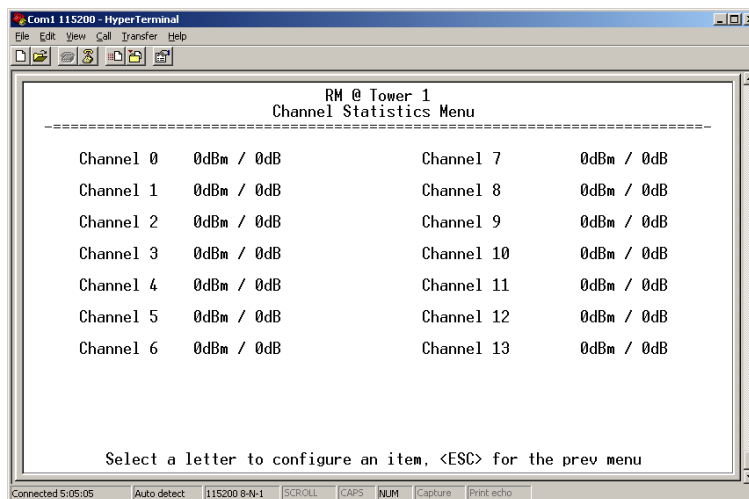

Figure 3-100. Channel Statistics Menu
- **Channel Statistics**—This selection presents a screen (Figure 3-100) that shows signal quality on a channel-by-channel basis. Readings are expressed in RSSI dBm and Signal-to-Noise Ratio (SNR) dB, respectively.